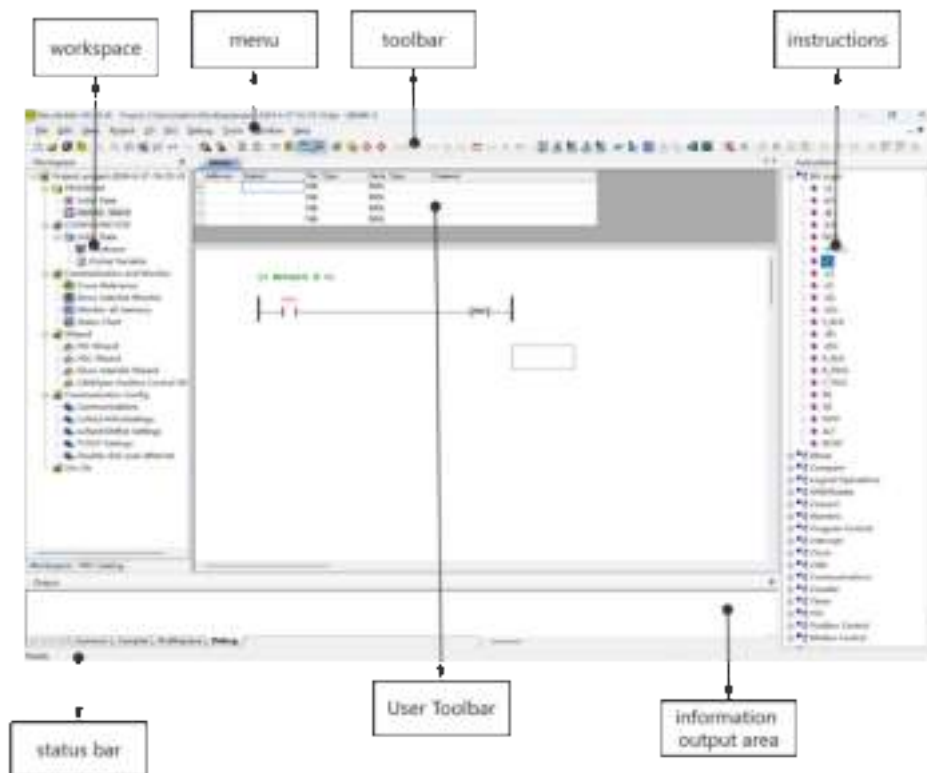

Figure 2-3 KincoBuilder Windows
- **User workspace:** This is the main area used by the user, where the user can open the hardware configuration window, global variable table, editor and other windows to complete tasks such as configuring hardware, declaring global variables, and editing programs. Figure 2-3 shows the editor, including the variable definition table in the upper part of the area and the program editor in the lower part of the area (also divided into LD editor, IL editor).